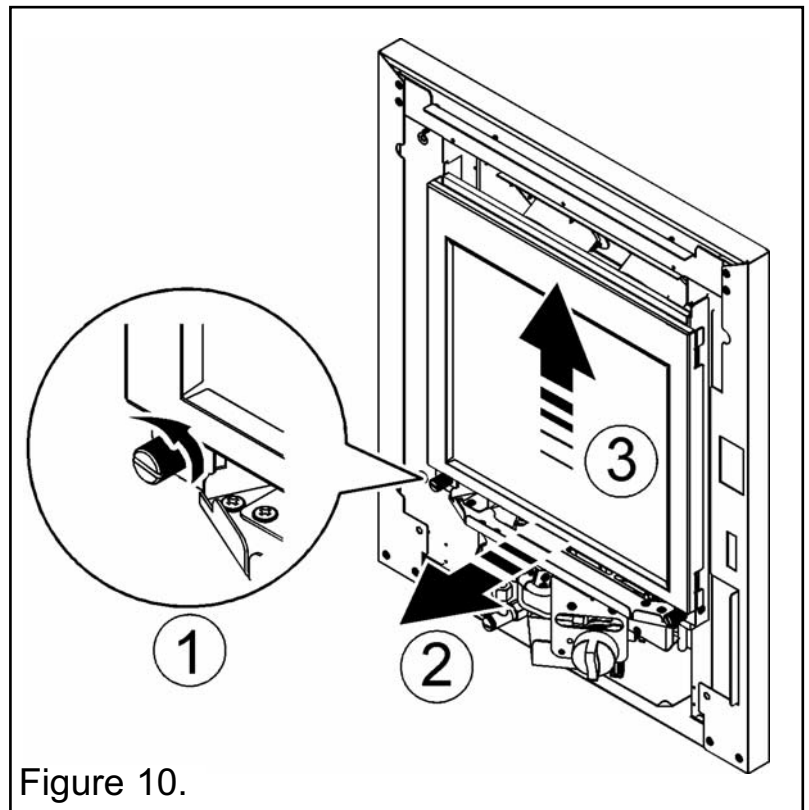

Figure 10.
2. Detach and remove the window assembly. To do this unscrew and remove the two thumbscrews at the base of the window assembly. Gently lift the window assembly upward and forward (See figure 10). Place the window assembly and thumbscrews in a safe place away from the work area.